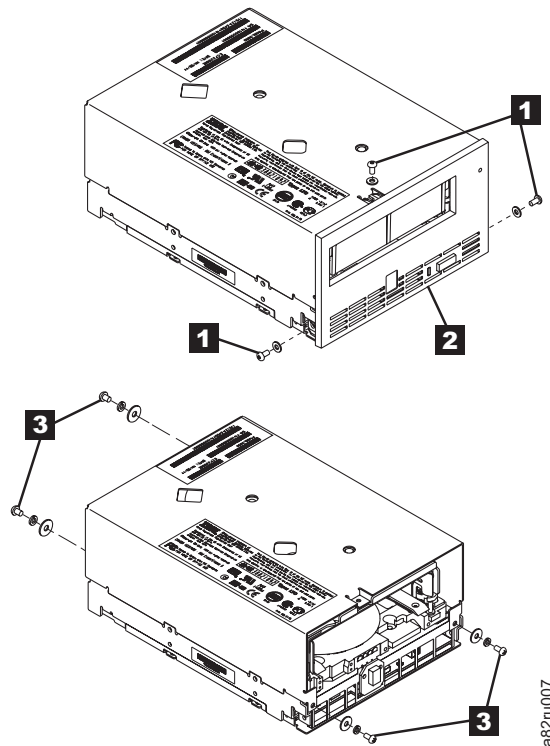

Figure 8-82. Removing the cover from the internal drive
- a. Using a Phillips screwdriver, remove the three screws and washers (see **1** in Figure 8-82) that secure the bezel (see **2**) to the internal drive, then remove the bezel.